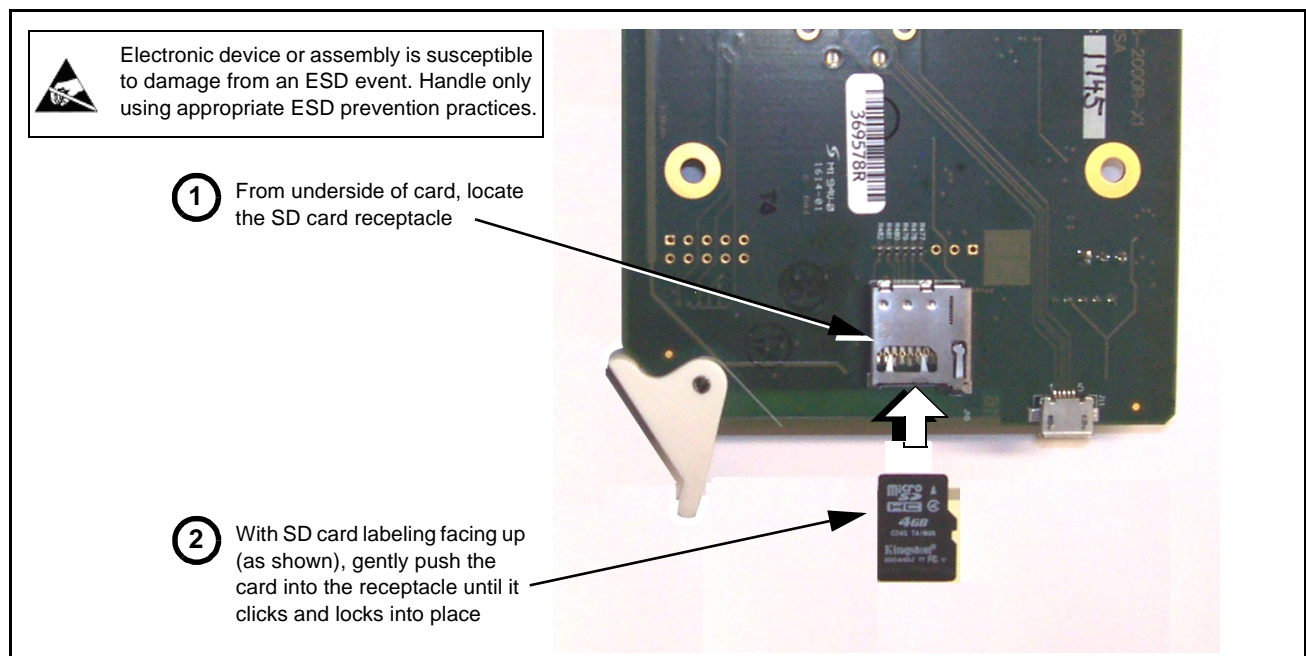

Figure 3-10 SD Card Installation
1. (See Figure 3-10.) Make certain the device has the proper SD card installed in the under-card slot. If SD card is **not** installed, contact Product Support to obtain an SD card.